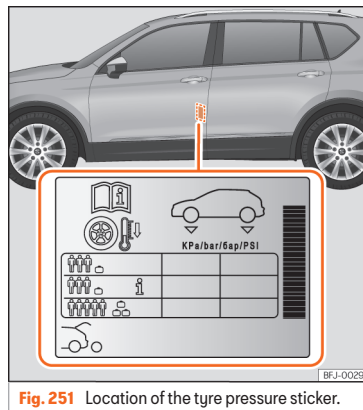

Fig. 251 Location of the tyre pressure sticker.
- Adjust tyre pressure to the load being carried by the vehicle »» **Fig. 251**.
The tyre inflation pressures are listed on a sticker on the rear of the front left door frame »» Fig. 251.
Depending on the vehicle, tyre pressure can be adjusted to medium load to improve driving comfort (tyre pressure **i**) »» Fig. 251). When driving with comfort tyre pressure fuel consumption may increase slightly.
The tyre pressure must be adjusted according to the load the vehicle is carrying. If the vehicle is going to carry the maximum load, the tyre pressure should be increased to the maximum value indicated on the sticker »» Fig. 251.
In the case of a minimised temporary spare wheel (**l**), inflate to a pressure of 4.2 bar as indicated on the tyre pressure label »» Fig. 251.
ded tyre pressure is indicated on the label »» Fig. 251.
- **When the tyres are cold, tyre pressure should be that indicated on the label »» Fig. 251.**